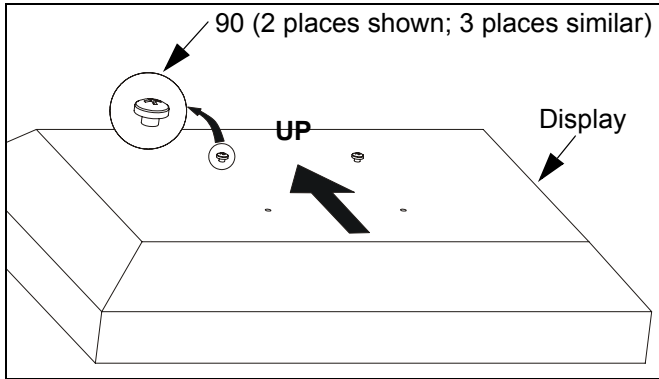

Figure 4: Install Upper Display Screws - Flush Mount
- Using Phillips screwdriver, install two (or three, if applicable) screws (90) completely into the *upper* display mounting holes, then back out 4 full turns (See Figure 4).